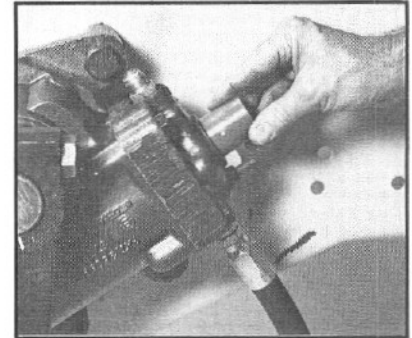

Figure 24
- 2.7 Apply clean grease to the new input shaft seal assembly (6, 7, and 8) and to the input shaft. Install the new two-piece seal (7 and 8) flat side up and the steel backup washer (6), using seal driving tool J26653 (FIG. 24). Install the retaining ring (5).